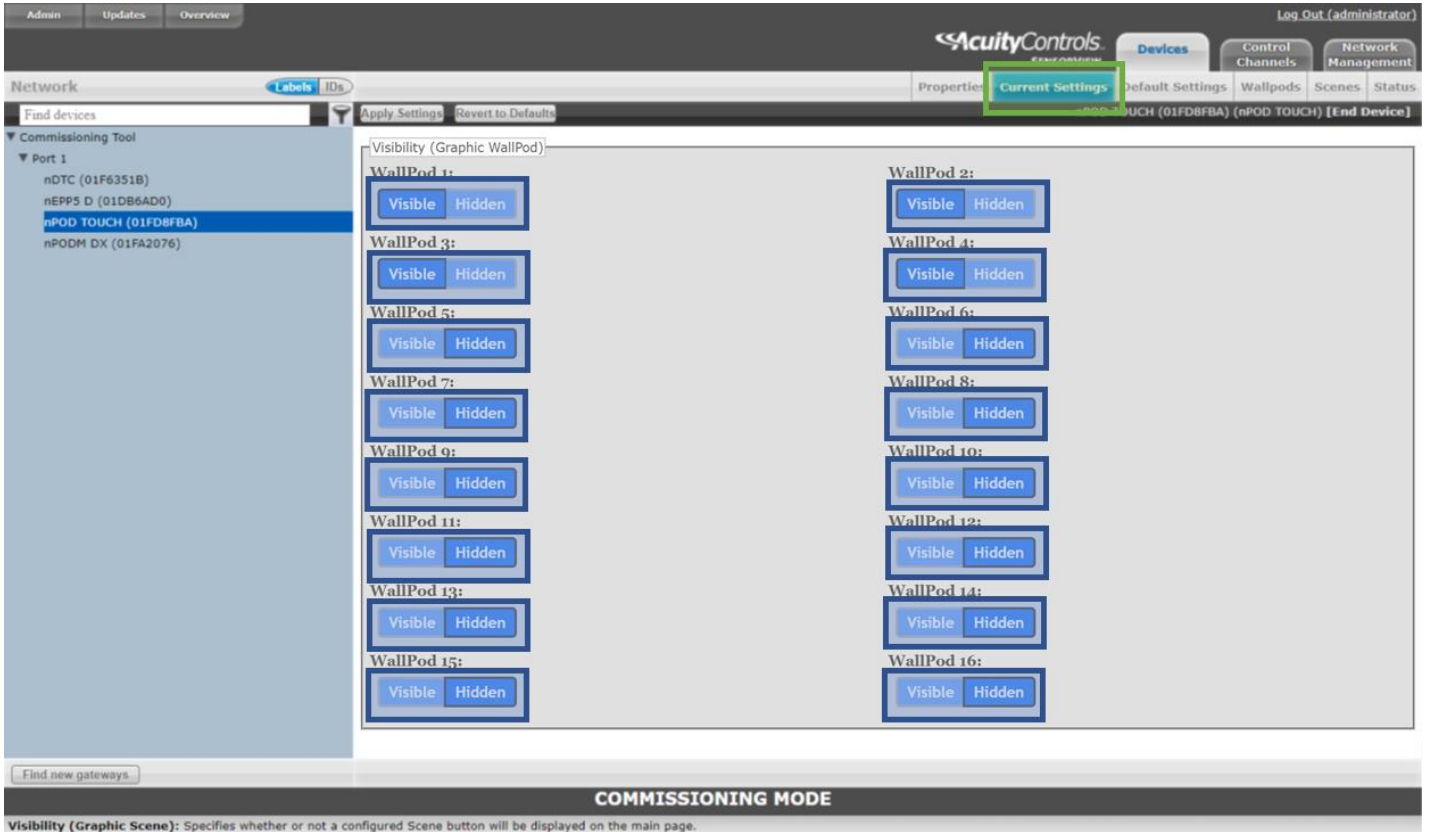

Figure 32 - Enable WallPods through SensorView - Current Settings Tab
- a. Navigate to the “Current Settings” tab (See Figure 32)